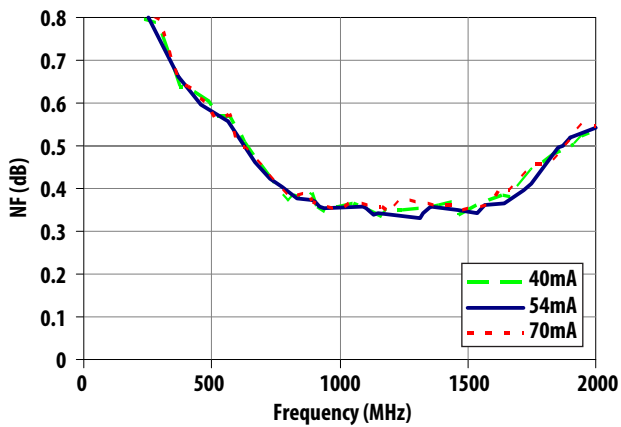

Figure 30. NF vs Frequency vs Idd
2. Scattering and noise parameters are measured on coplanar waveguide made on 0.010 inch thick ROGER 4350. The input reference plane is at the end of the RFinpin and the output reference plane is at the end of the RFoutpin as shown in Figure 30.